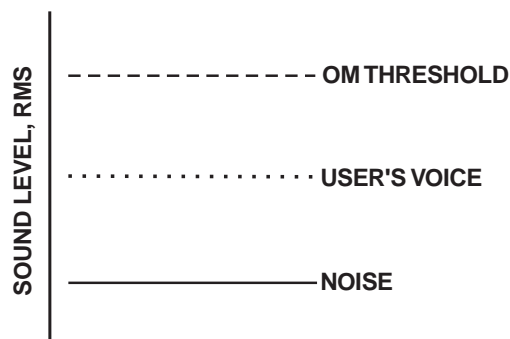
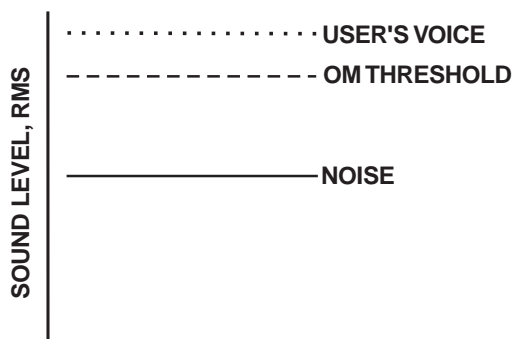

Figure 22
Figure 23
The microphone gain controls on the base station and belt-pack are set to mid-levels by the factory. In most cases this setting will work fine and only on loud speech will the overmodulation (OM) indicator light. However, in environments where the background noise is loud or the user has a strong/quiet voice, the gain control will need to be adjusted. In Figure 22 the gain is set correctly. The user's root-mean-square (RMS) sound level is well below the OM threshold and only on peaks does his or her voice flash the OM indicator light.
Figure 23 displays the same gain setting as in Figure 22 but brought into a high noise environment. The user's voice now lights the OM indicator all the time he or she speaks due to the higher noise plus the user speaking louder. The result on the system is distortion on louder speech. The microphone gain must be reduced. The same applies to a user with a powerful voice. If someone sets the system mic gain to their voice and user has a much stronger voice, then the gain will need to be reduced, even if the background noise is the same.